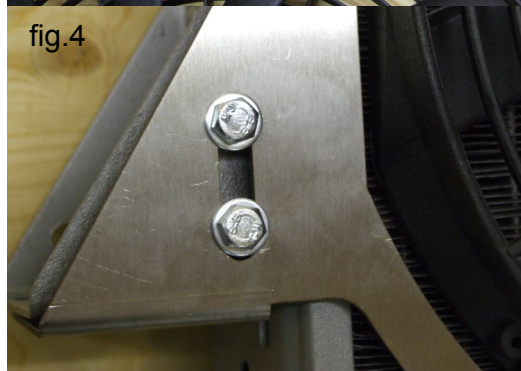

fig.4
5. Using the slots in both brackets and the holes in the radiator; fit the 4 off M6 x 25 set screws (bolts) with washer and nuts to pinch the fan up to the radiator (fig.4).